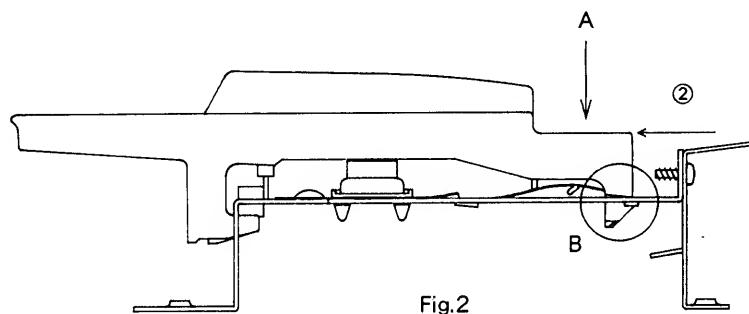
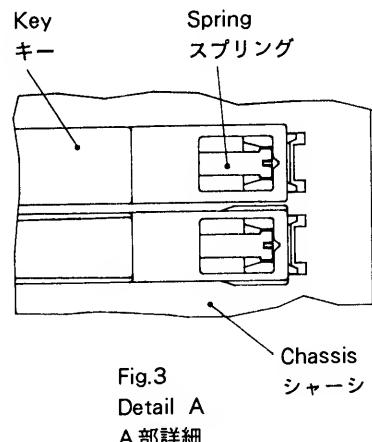

Fig.2
Fig.3
2. Referring to Fig.2, pulling the key in the direction of arrow ②, disengage the key fulcrum from the chassis. See Fig.3 and 4 for disengaged status.